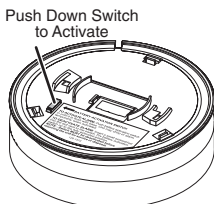

FIGURE 6B
4. Activate battery before mounting. Turn the unit over and push in the battery activation switch until it is flush with the base. See Figure 6B. **UNIT MAY CHIRP OR ALARM TEMPORARILY WHEN ACTIVATED.**
3. Before discarding or returning the unit for service, the battery must be deactivated. Insert a small screwdriver into the slot next to the battery activation switch and pry it up to its fully extended position. See Figure 6B. This will deactivate the battery and allow the unit to be shipped or discarded.
5. Firex smoke alarms sold with long-life lithium batteries require replacement approximately every ten (10) years. Replace units approximately every ten (10) years or when the low battery signal sounds.